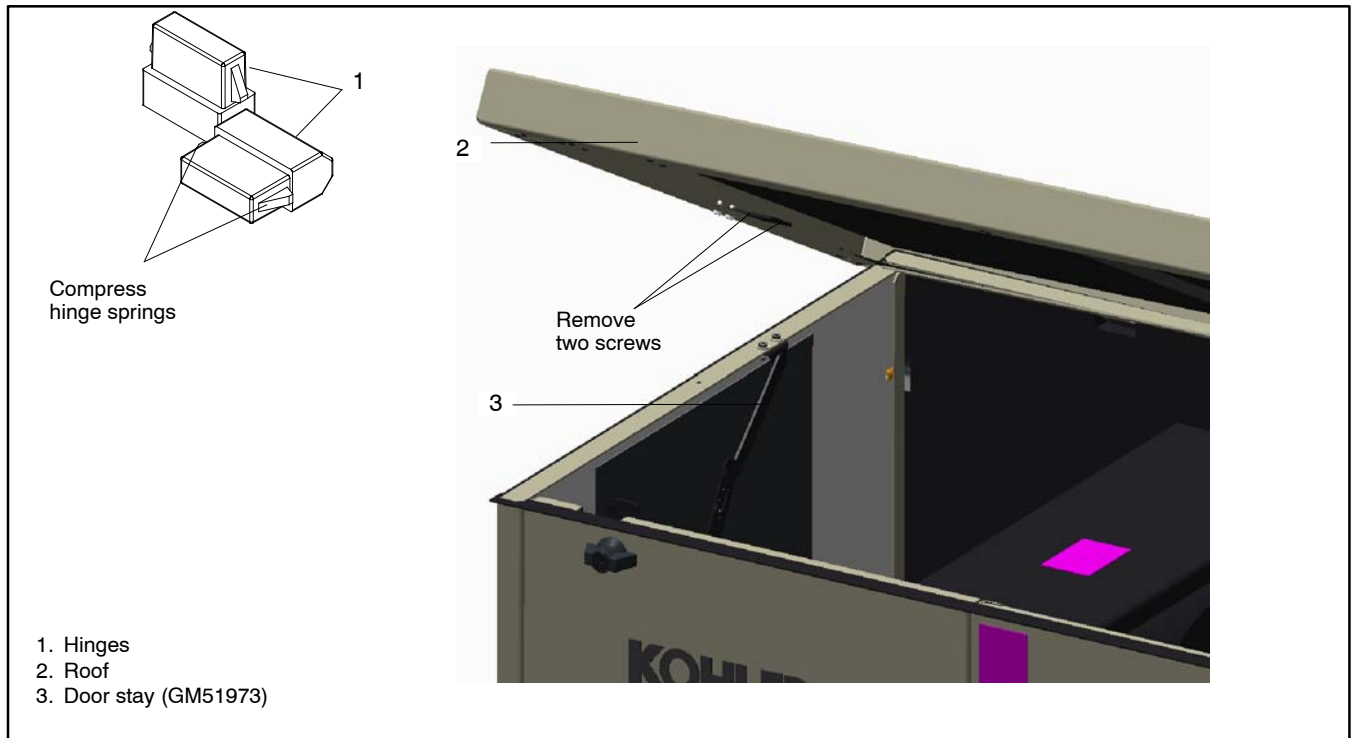

Figure 7-11 Roof Stay and Hinges
3. Remove the screws on one end of the roof stay to disconnect the roof stay. See Figure 7-11.
4. Remove one roof hinge: Use two screwdrivers to compress the hinge springs. See Figure 7-11.